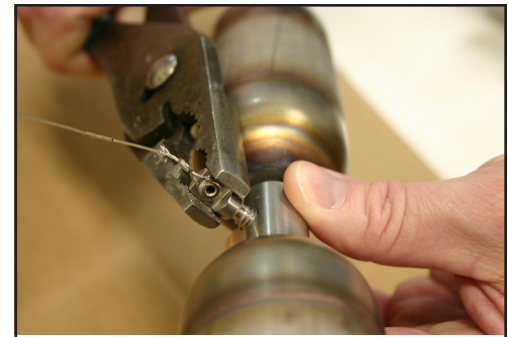

Figure 2
9. Next you need to attach the float to the cable screw on the end of the gauge cable. Unscrew the cable bullet exposing the cable screw threads. The cable bullet is now no longer needed and can be discarded. Using the small tube of adhesive provided, place a drop or two of the adhesive onto the male threads, of the cable screw. Thread the float onto the cable screw and, while using pliers to carefully hold the float connector, snug the float onto the cable screw (See Figure 2). **NOTE: Make sure to do not damage the cable with the pliers.**